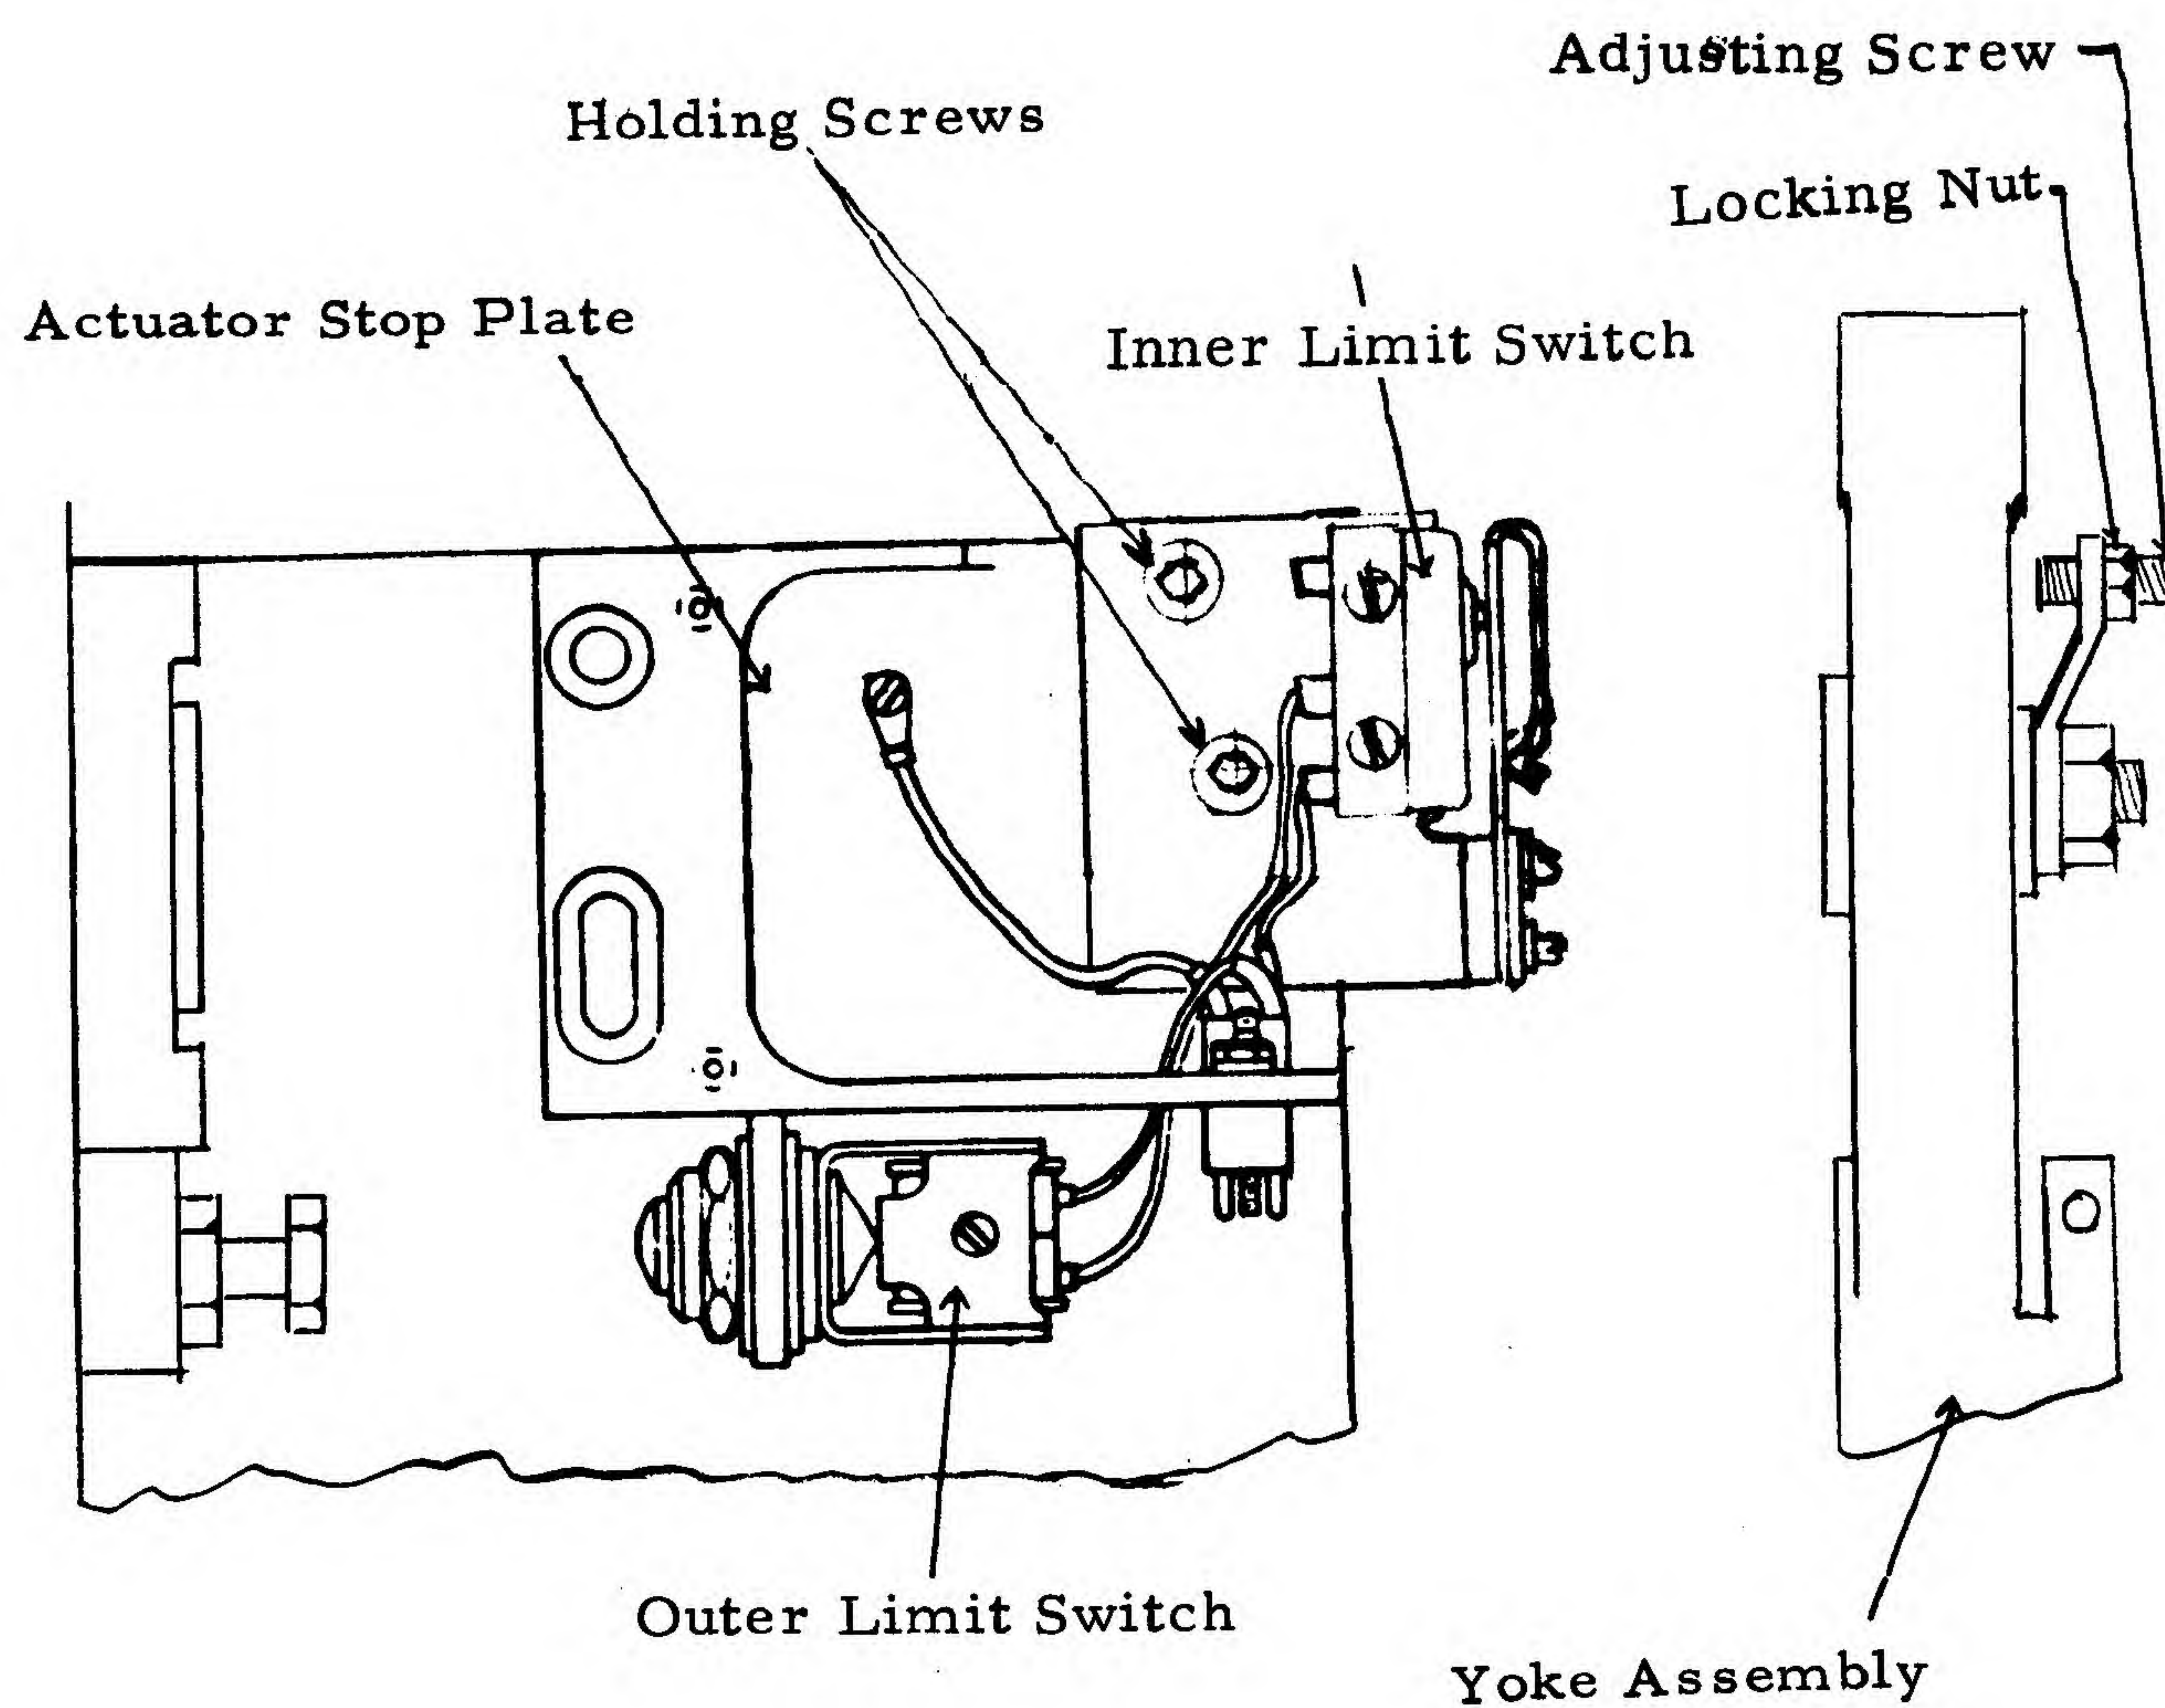

Figure 3-42 Limit Switch Adjustment
3.4.2 LIMIT SWITCHES (FIGURE 3-42)
Adjustment (Figure 3-42)